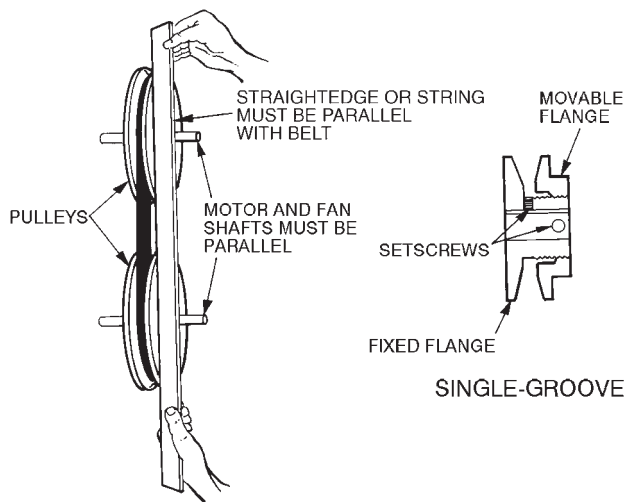

Fig. 36 – Evaporator-Fan Alignment and Adjustment
3. Loosen movable-pulley flange setscrew. (See Fig. 36.)